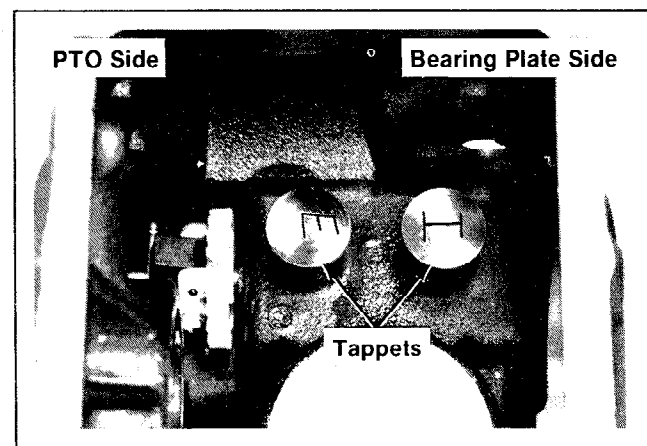

Figure 12-4. Installing Tappets.
1. Install the intake valve tappet and exhaust valve tappet into crankcase. (Intake valve tappet towards bearing plate side; exhaust valve tappet towards PTO side of crankcase.) Refer to Figure 12-4.
2. Align the primary timing marks on balance gears with the teeth on timing tool. Insert the tool so it meshes with the gears. Hold or clamp the tool against oil pan gasket surface of crankcase. Refer to Figure 12-4.